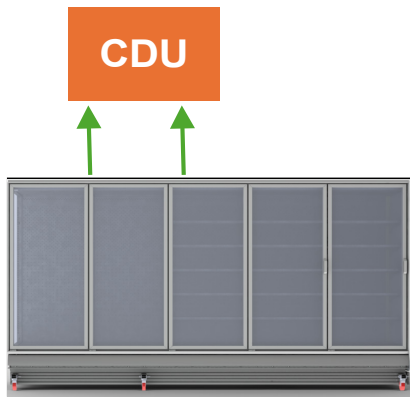
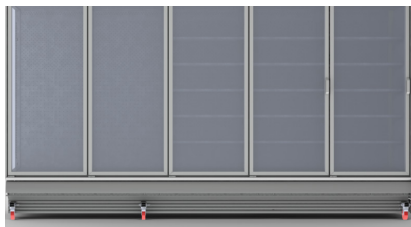

Fig. 20 Remove CDU
Fig. 21 Ready for doorway
7. Using a two-person team and the four corners of the drain pan as lift points, gently lift condensing unit from the top of the case (Fig. 20) and place in a safe location for later install. Case is ready for doorway entry (Fig. 21).